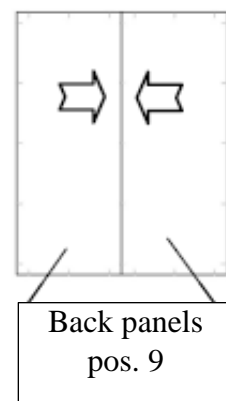

Fig. 8c
Using the hammer , drive the dowels (pos. 20)  (**Fig. 8**) in the holes of one *back panel* (pos. 9) at locations shown in **Figure 8a**. Then move the second back panel (pos. 9) and after aligning the holes in it with the dowels (pos. 20)  press the back panels (pos. 9) against each other until they stop (**Fig. 8c**).